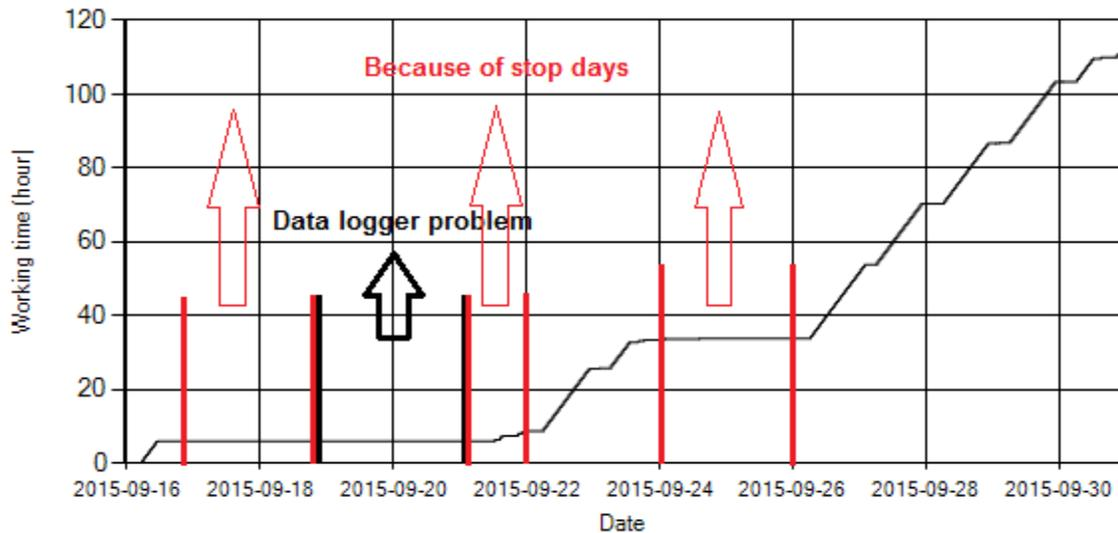

Figure 12- Time diagram for calculating CPK's working days
**Notice:** According to figure 12, data logger didn't sample on Sep 19th and 20th. So average two days working hours were added to total working hours.
Notice: Data logger sampling time can be calculated from Figure 12. The lines parallel with Date axis show days without data logger data.